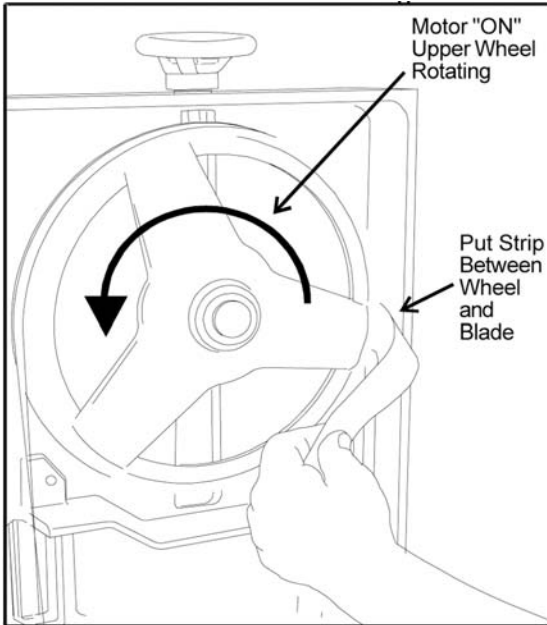

Figure 11: Checking blade-to-wheel clearance using paper strips
9. Put a 6-inch length of paper between the blade and the wheel as shown in Figure 11. The paper should not be cut as it passes between the wheel shoulder and the blade.